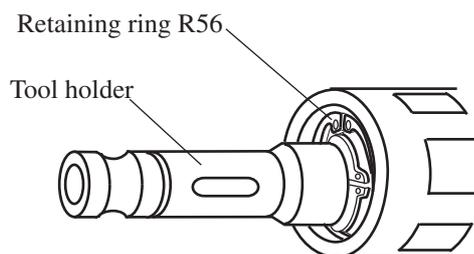

Fig. 15
2. Pull out tool holder after removing retaining ring R56. (see Fig.15)